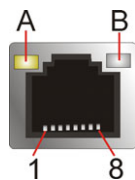

Figure 3-33: Ethernet Connector
- CN Pinouts:** See **Figure 3-33** and **Table 3-34**